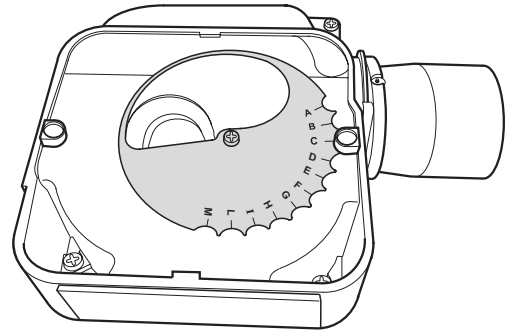

Fig. 22 - 15/21 air adjuster disc at position 'C'
To adjust the 15/21 air adjuster disc when downrating - See Fig. 22
5. The secondary air shutter disc is factory set in position 'C' – i.e. with the cut-out marked C located against the die-cast boss on the fan housing - suitable for outputs of 18.3 and 21 kW only. See Fig 22.